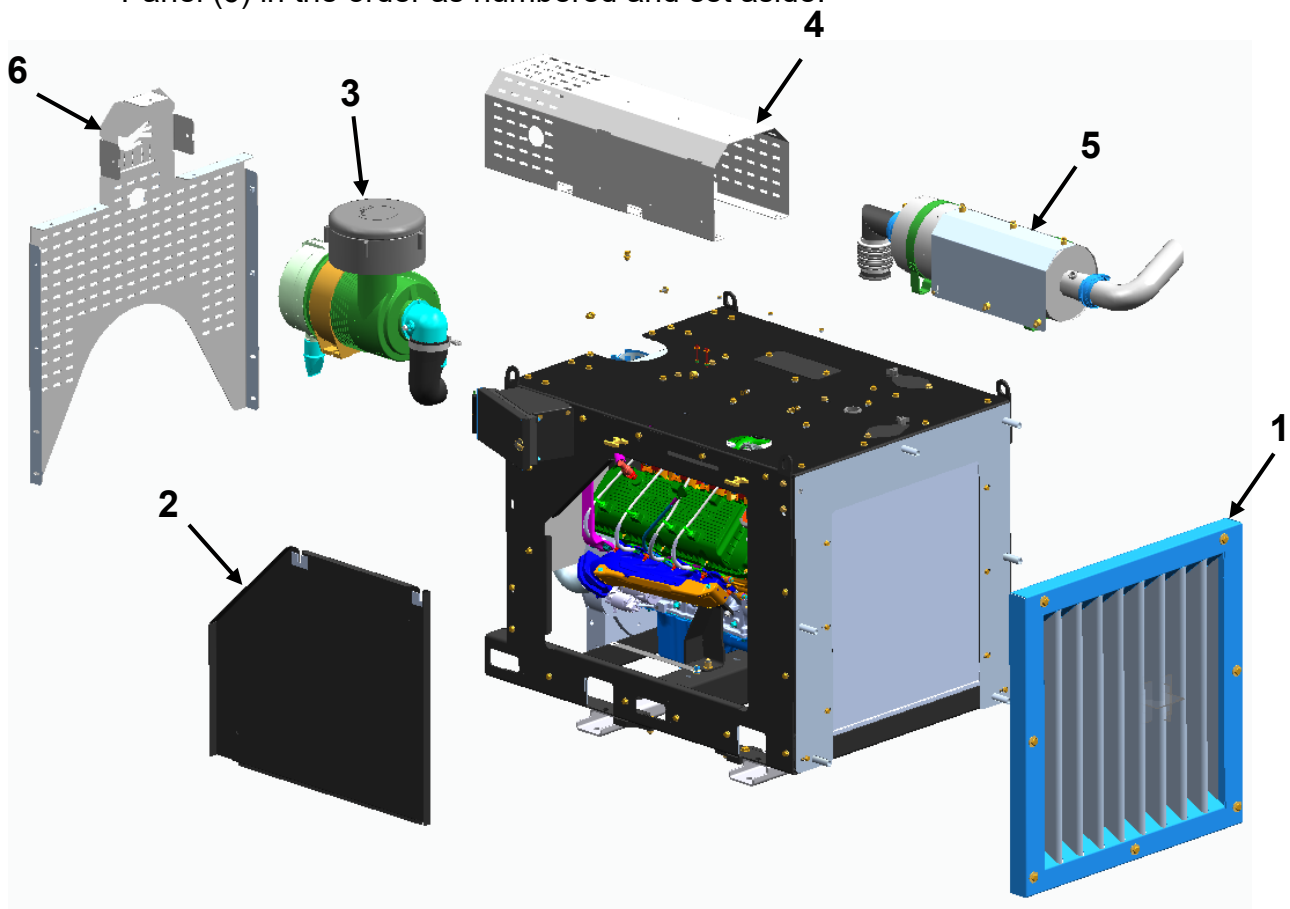

Figure 1
- 1) See Figure 1. Remove the Debris Screen (1), Access Panel (2), Engine Air Intake Assembly (3), Exhaust Heat Shield (4), Muffler Assembly (5) and Rear Panel (6) in the order as numbered and set aside.